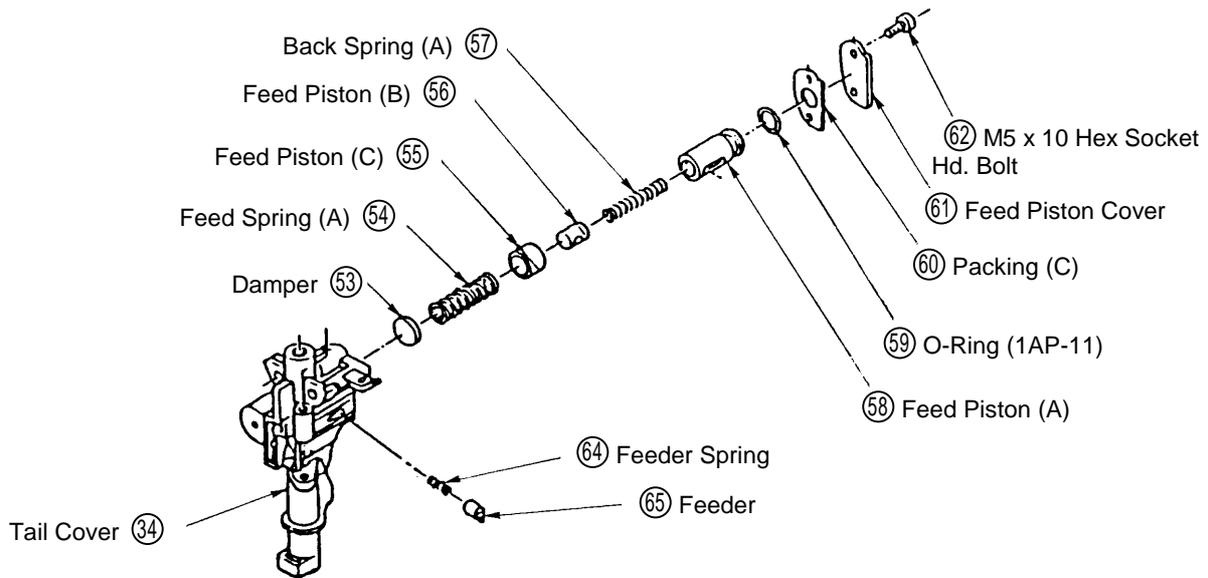

Fig. 21 Disassembly and Reassembly of Feed Piston and Related Parts
(a) Disassembly: (Refer to Fig. 21)
- Be very careful to ensure that the Damper (53), Feed Piston (C) (55), Feed Piston (B) (56) and Feed Piston (A) (58) are assembled in the proper direction. (Refer to Fig. 21)